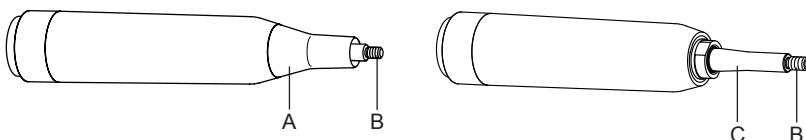

Fig. 9
Clean the handpiece carefully paying special attention to the threaded pin onto which the inserts are screwed (Fig.9 - Ref.B) and the adjacent ring-shaped cavity.
- 2 Unscrew the front metal cone (Fig.9 - Ref.A);
- Handpiece thread (Fig.9 - Ref.B);
- Titanium support (Fig.9 - Ref.C);
- Front cone (Fig.9 - Ref.A) in its external and internal parts.
- 6 Dry and reassemble the front cone on the handpiece (Fig.9 - Ref.A);